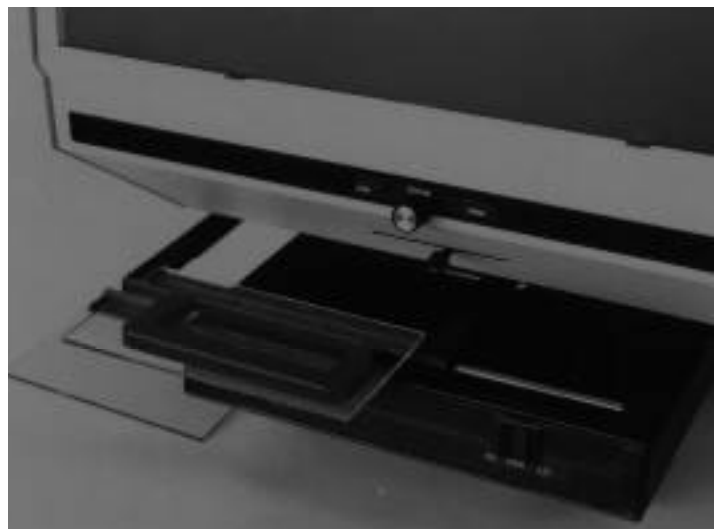

Figure 3
5. Gently push the lower glass backward until it stops, it should move back about 1/4". Lift the glass up and toward you (Figure 3).